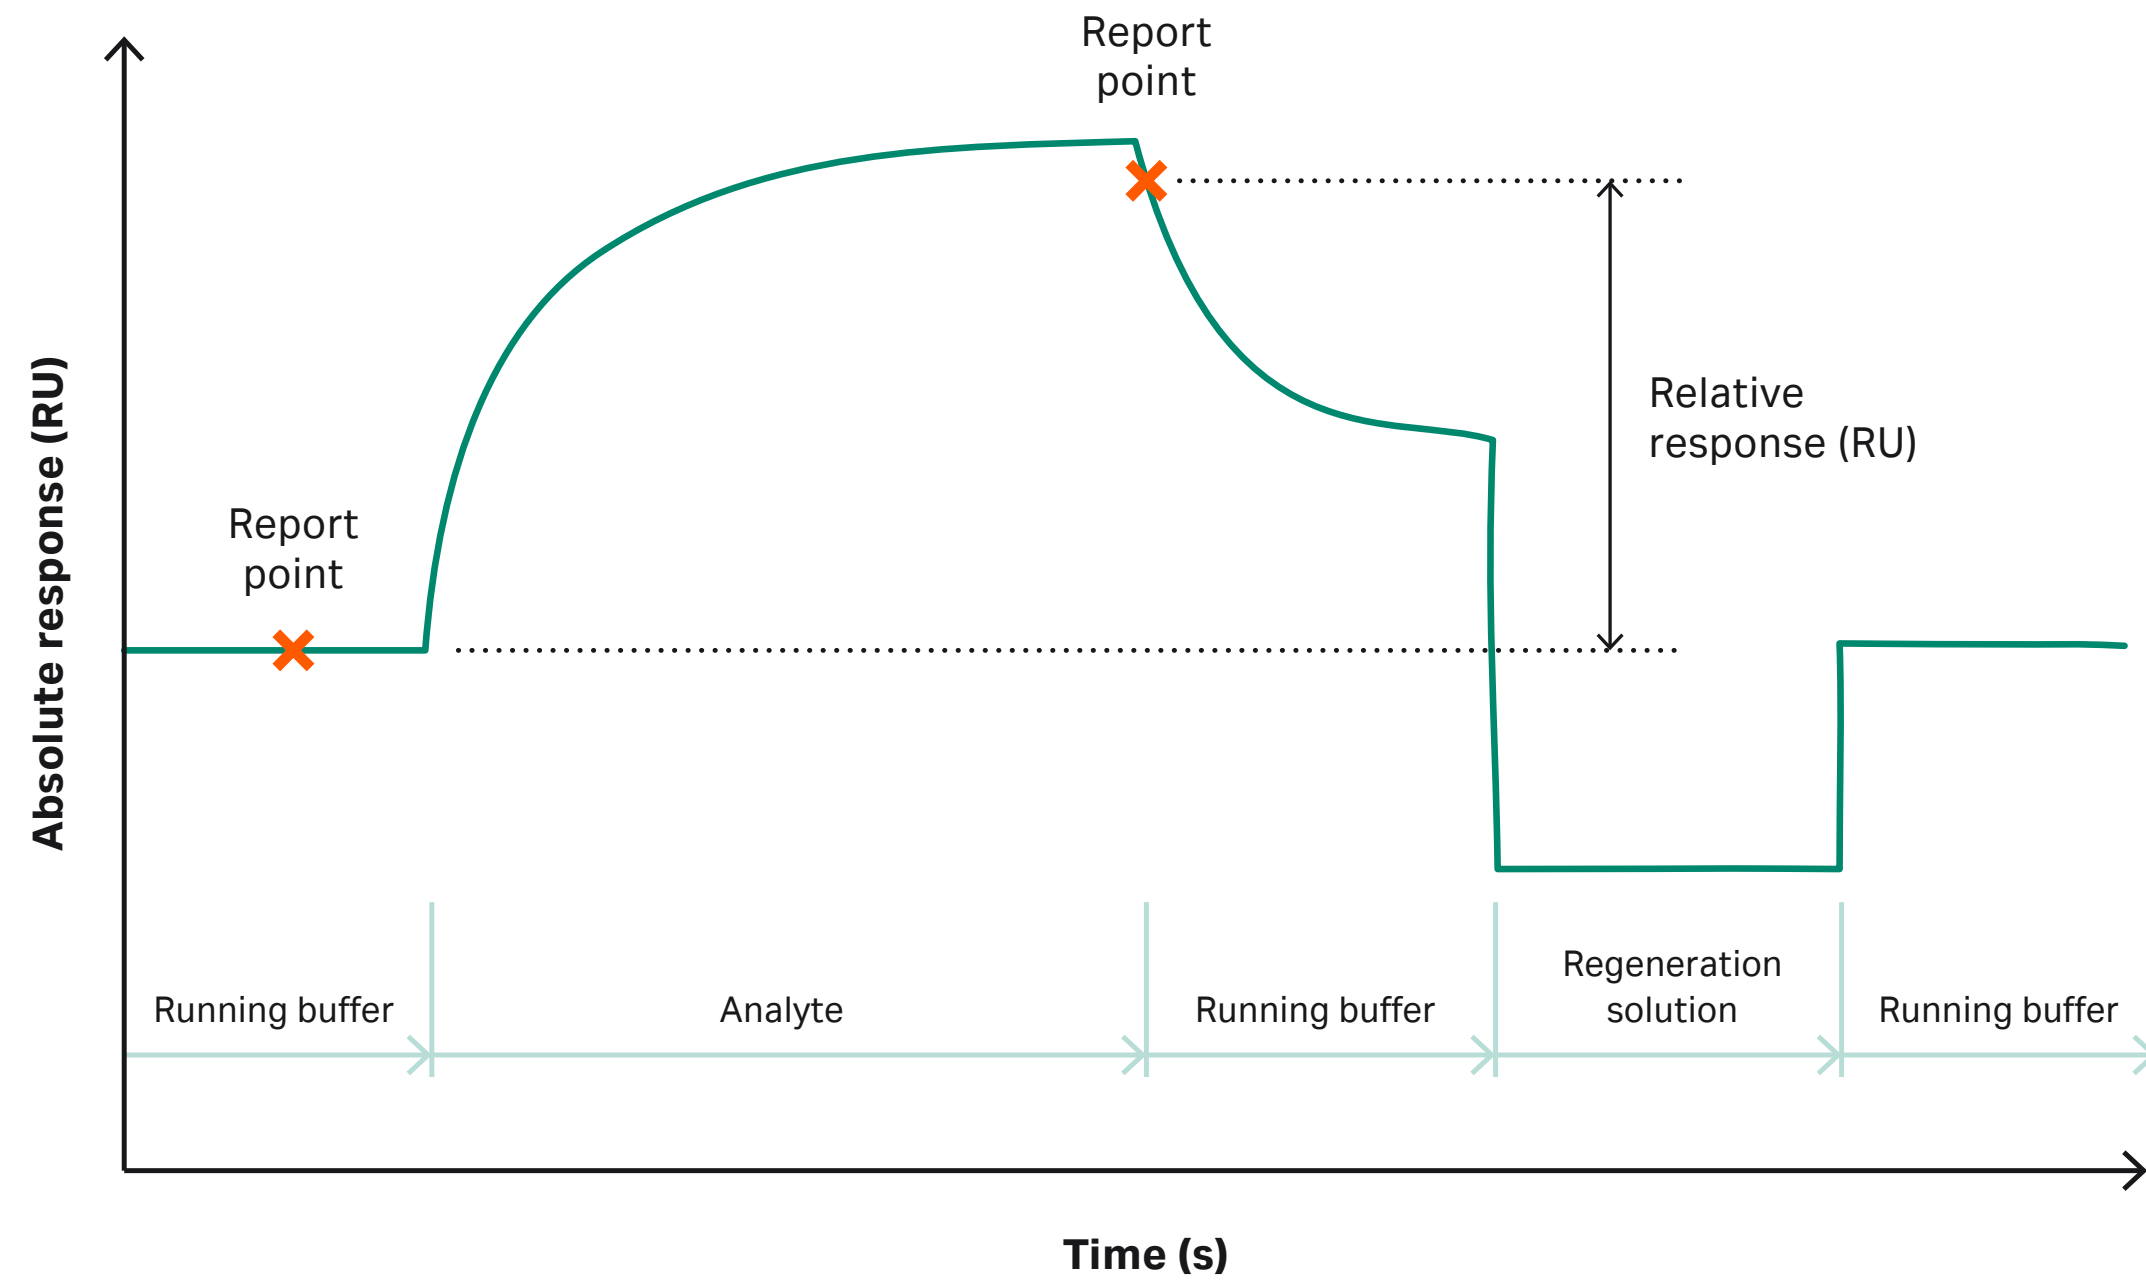

Fig 1.2. Schematic illustration of a sensorgram. The bars below the sensorgram curve indicate the solutions that pass over the sensor surface.
- Response is measured in **resonance units (RU)**. The response is directly proportional to the concentration of biomolecules on the surface.
- A **sensorgram** is a plot of response in RU against time (Fig 1.2), showing the progress of the interaction. This curve is displayed directly on the computer screen during an analysis. Sensorgrams may be analyzed to provide you with information on the rates of the interaction.